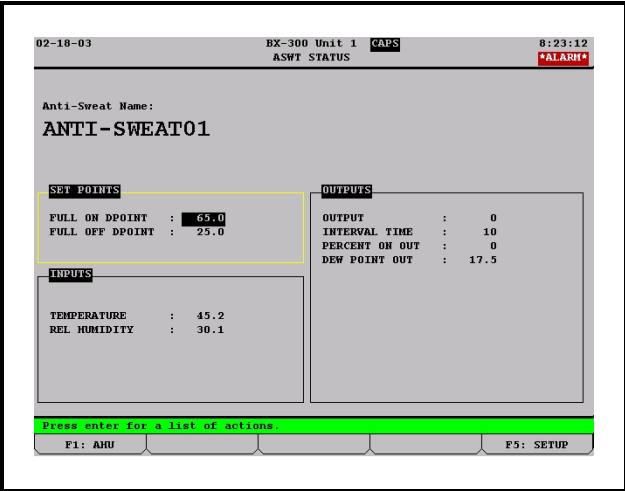

Figure 3-1 - Anti-Sweat Status Screen
1. From the Home screen, press F5 #I to select Anti-Sweat. 2. If you have created more than one application, you will be asked to select an application. Highlight the one you wish to configure and press Enter.	1. Press Menu. 2. Press 5 (Configured Applications), and select Anti-sweat from the list. 3. If you have created more than one application, the Anti-sweat Summary screen will appear. From the Summary screen, highlight the first application to configure by using the arrow keys. Press Enter to go to the Anti-sweat Status screen (Figure 3-1). If you have set up only one application, you will go directly to the Anti-sweat Status screen.